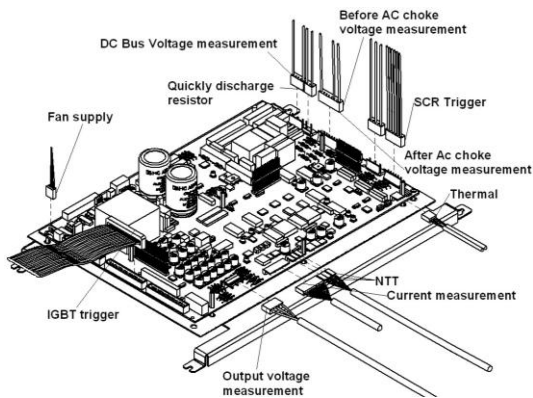

Figure 7.4.6. Disconnect all connected wires from power board
See the figure 7.4.6 while reading the following instructions:
- 7) Connect the cables to the corresponding connectors (see figure 7.4.6).